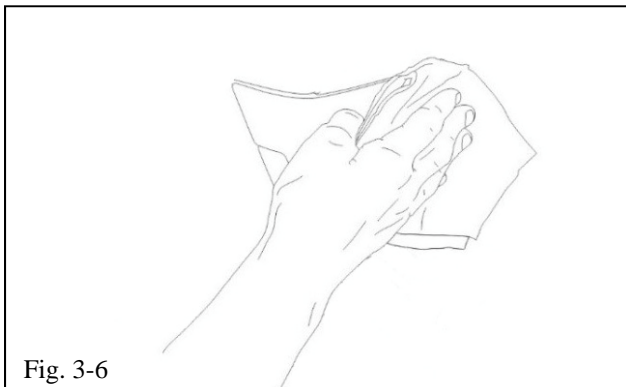

Fig. 3-6
- (h) Confirm all areas of applique are aligned, then press firmly with a clean, dry cloth to all areas to ensure the tape adhesion areas are making full contact (Fig. 3-6).